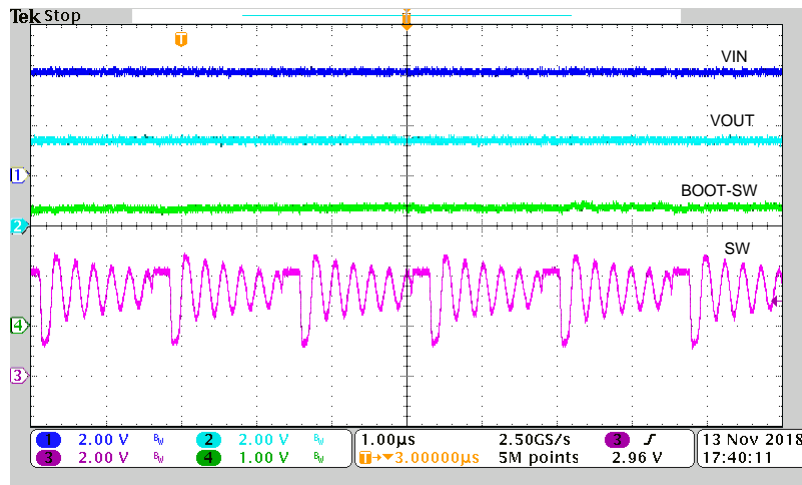
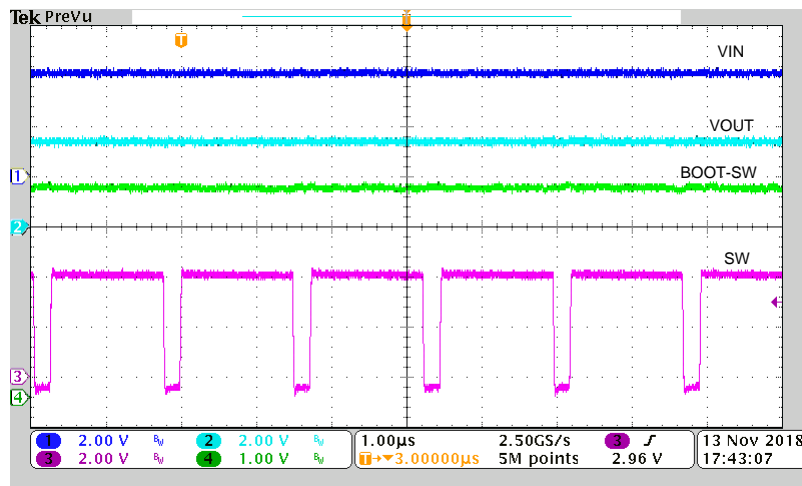
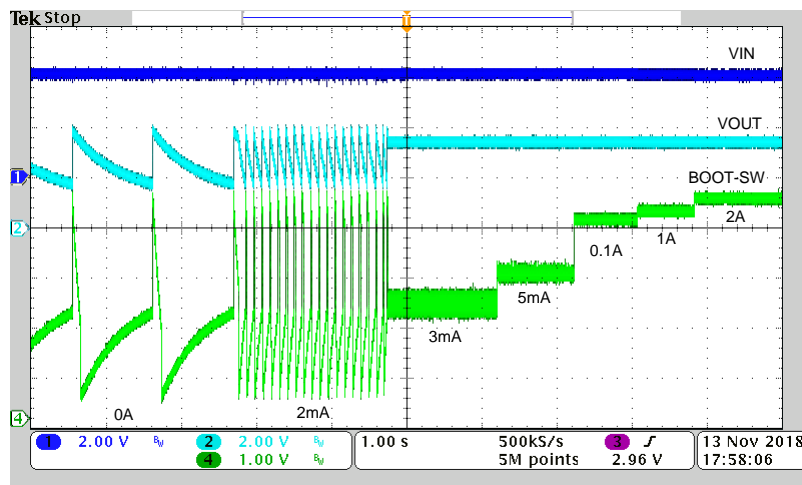

Figure 12. Bootstrap Capacitor Voltage Waveform with  $V_{IN} = 4\text{ V}$ ,  $I_{OUT} = 3\text{ mA}$
Figure 14. Bootstrap Capacitor Voltage Waveform with  $V_{IN} = 4\text{ V}$ ,  $I_{OUT} = 1\text{ A}$
Figure 15. Bootstrap Capacitor Voltage Waveform with  $V_{IN} = 4\text{ V}$ , Variation  $I_{OUT}$
Figure 12 through Figure 15 show the bootstrap capacitor voltage of solution (1) under different load conditions. From Figure 14, the minimum load current is 3 mA to keep the bootstrap capacitor voltage higher than 2.1 V.